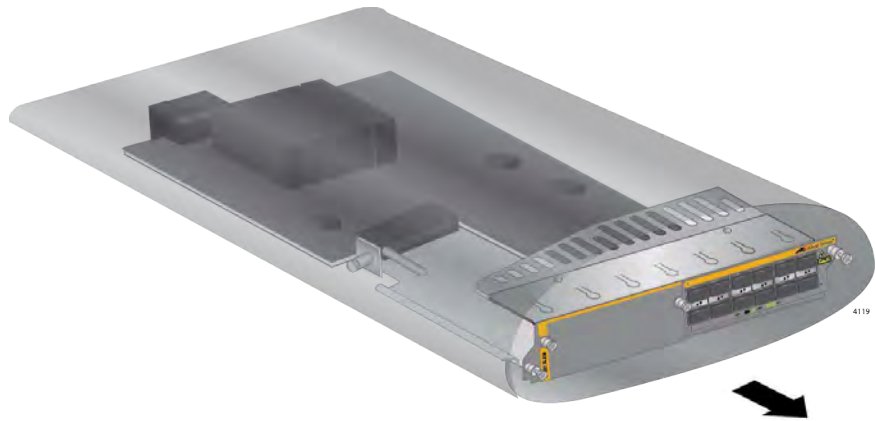

Figure 81. Removing the AT-SBx81XLEM Line Card from the Anti-static Bag
2. Carefully remove the card from the anti-static bag. Refer to Figure 81 on page 155.